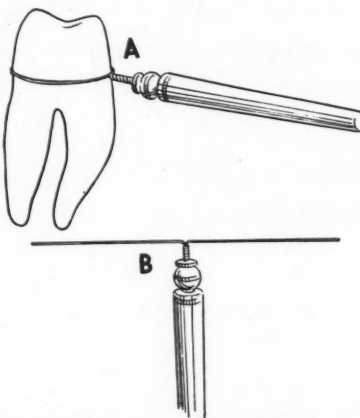

Fig. 2—Wire measurement taken around gingival of tooth (A). Split wire measurement (B) compared with wire measurement chart to choose correct size tin crown.
4. The tooth is prepared in the customary manner (Fig. 2).
5. A wire measurement is taken around the gingival of the tooth (Fig. 2).